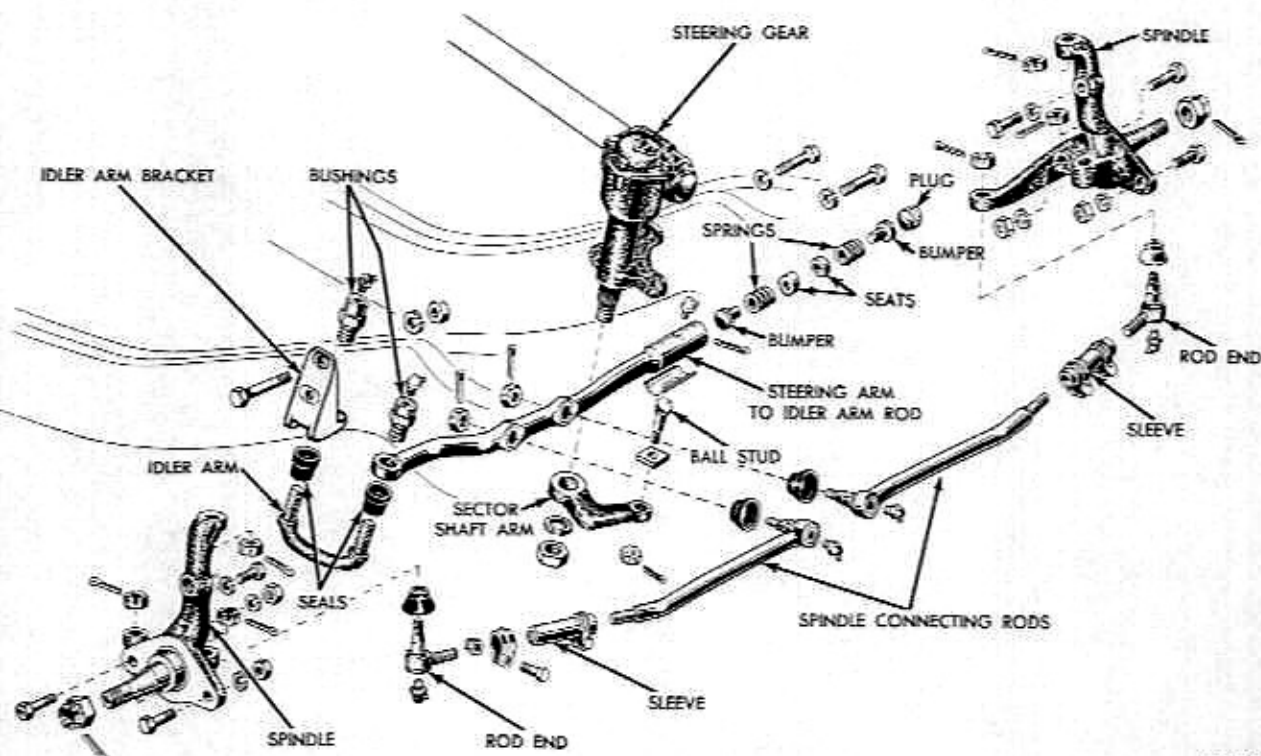

FIG. 13—Steering Linkage
1. Remove the cotter pin and nut from the rod end ball stud (Fig. 13).
3. Install new ball stud parts in the socket in the order shown in Fig. 13. When using a ball stud repair kit to replace worn or damaged parts, install all parts supplied in the kit.
2. Remove the cotter pins and nuts which attach both spindle connecting rod ball studs to the steering arm to idler arm rod (Fig. 13) and tap the ball studs out of the rod.
6. Position the ball stud and the ball stud parts in the steering arm to idler arm rod socket (Fig. 13).